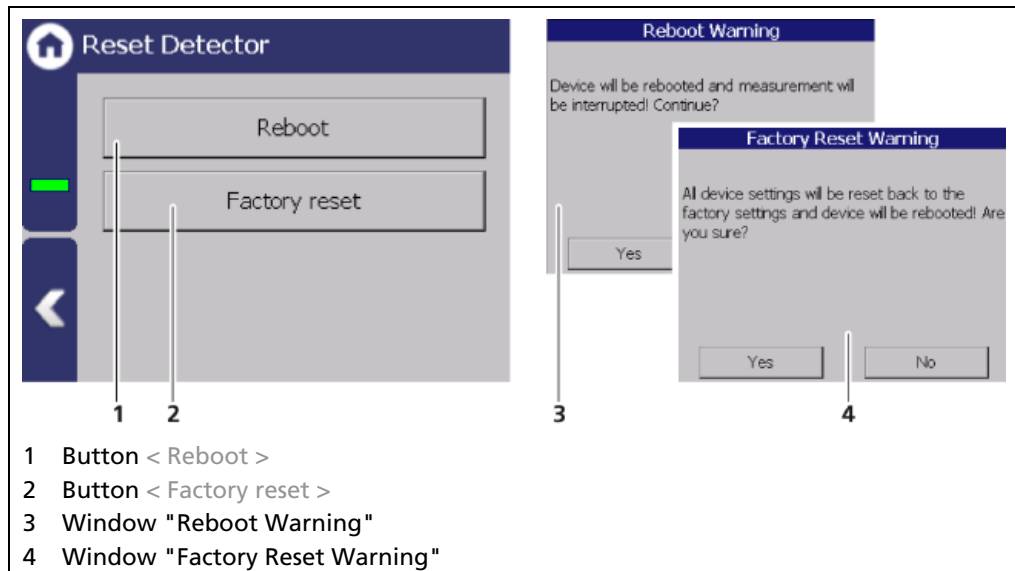

Fig. 61 Reset Detector
1. To restart the Detector, click the button <Reboot> (Fig. 61, item 1).
- ▶ A window with "Reboot Warning" (Fig. 61, item 3) opens.
3. To reset the detector to the factory settings, click the button <Factory reset> (Fig. 61, item 2).
- ▶ A window with "Factory Reset Warning" (Fig. 61, item 4) opens.